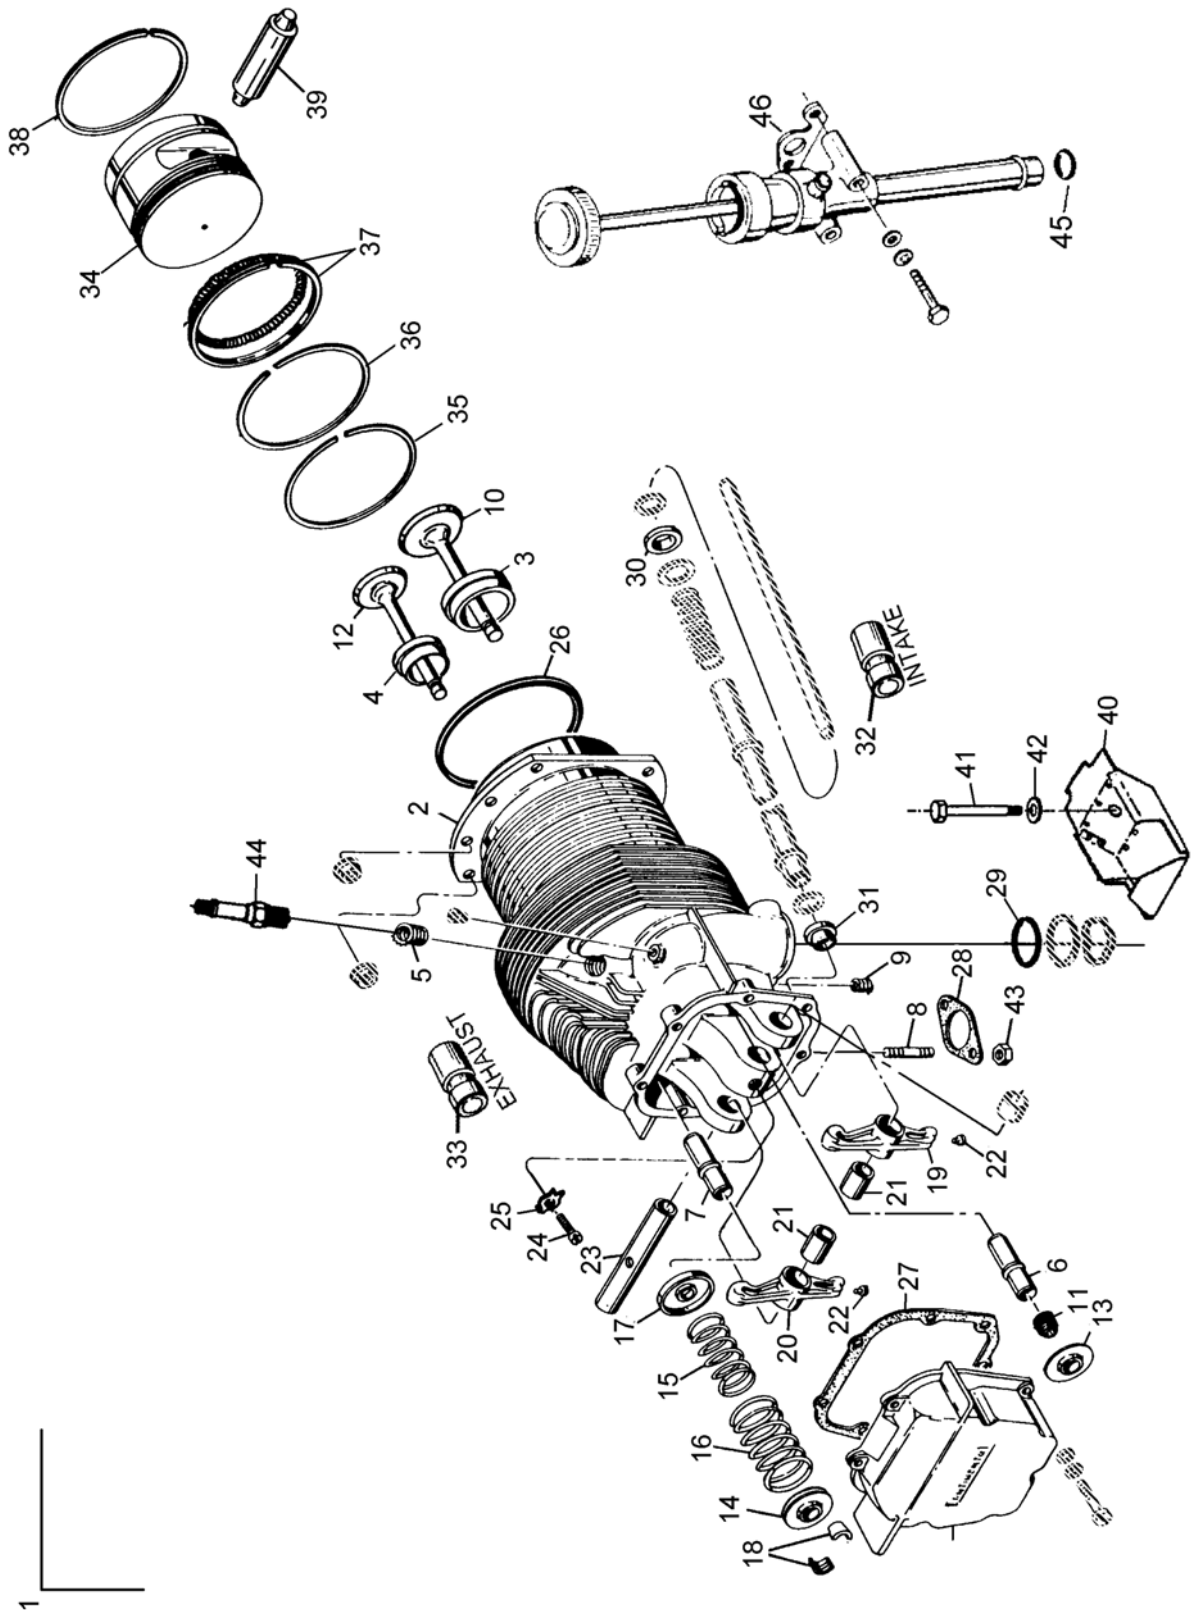

Figure 4. EQ6657 Kit (detail)
By this original bulletin, Continental Motors, Inc. (CM) announced the availability of a new cylinder kit for the IO-346 engine model. Kit EQ6657¹, includes four (4) cylinders and all components necessary for installation of the new cylinders. Figure 4, "EQ6657 Kit (detail)", on page 4, provides cylinder and component illustration followed by a complete parts list shown in Table 2 on page 5.